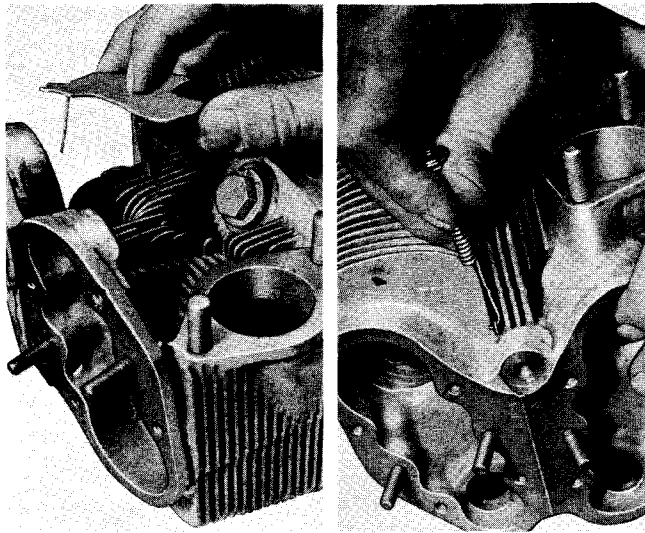

Figure 7-2. Installing Cylinder Baffle.
- c. Install new cylinder base packing (34) on the skirt of each cylinder and push it against the flange. Make certain none are twisted. Coat the cylinder bore walls with Cities Service No Scuff Oil, No. 9028 or castor oil.
- d. Lubricate pistons (33) and rings (29 through 32) liberally with Cities Service CMS No. 50. Position first and third ring gaps so they are on bottom when piston is installed. Stagger gap of second and fourth ring so they are 180° from that of the first and third.
- e. Insert spring (53) in holes in baffles (56) so the hook end opens toward outer end of cylinder. Using another spring, or a piece of thin stiff wire with a hook bent into it, install baffle on bottom
of cylinder head and fish spring (53) through fins. Hook spring in groove provided in cylinder head (see Figure 7-2).